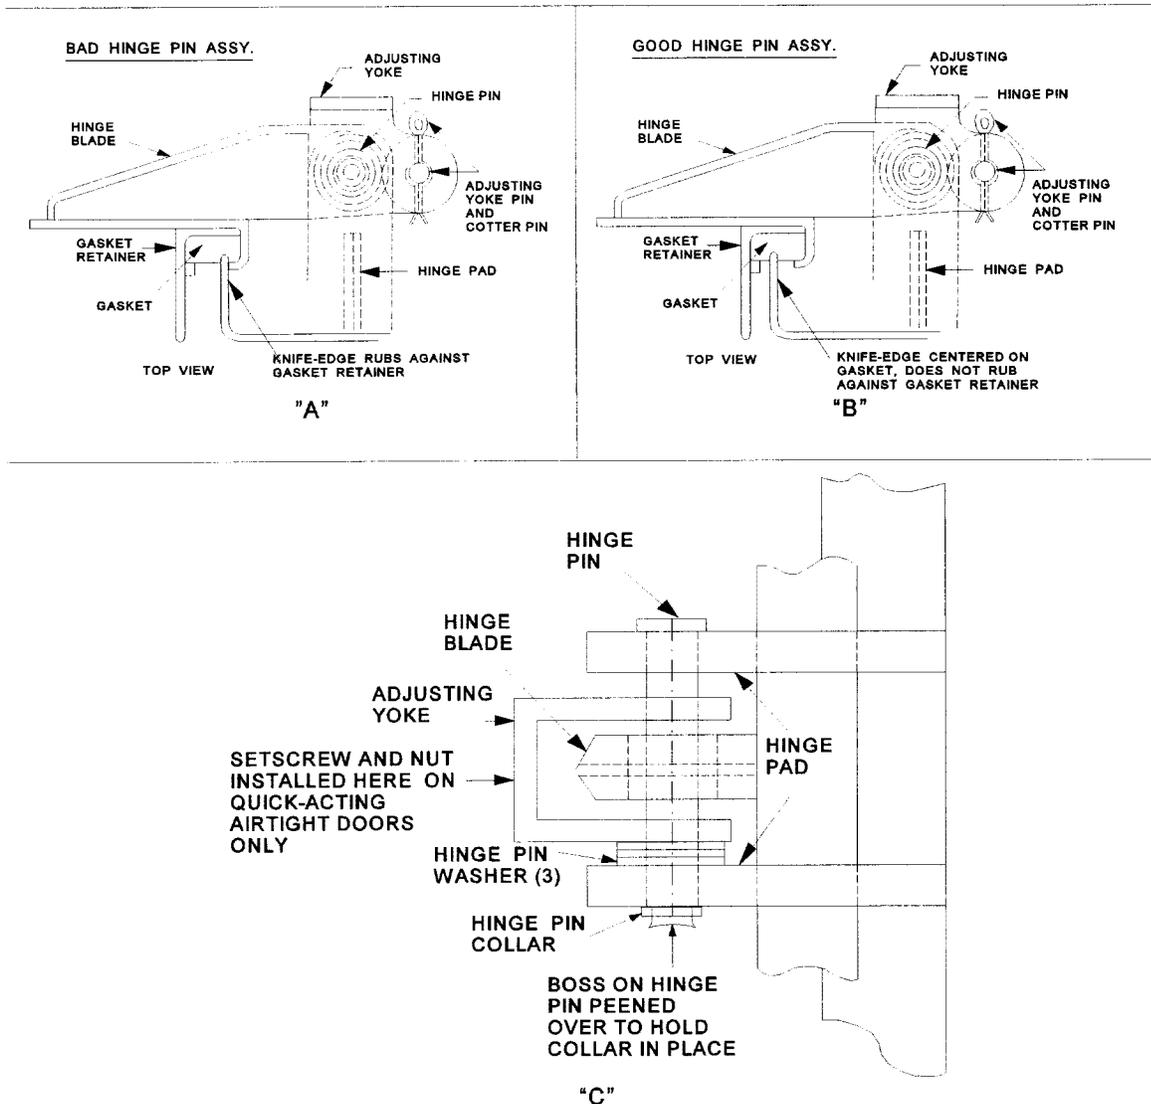

Figure 2-24. Hinge Pin Assemblies
- d. Visually inspect the hinge sleeves and hinge pins for wear. With the door opened, grasp the door from the hand lever side, and push toward the hinged side. The door should not give more than approximately 3/16 inch. If it does, either the hinge pins and/or washers are worn, or the holes for the hinge pins have become enlarged. Do not confuse hinge pin wear with normal play in the hinge blades. Another indication of hinge pin wear is if the metal channel surrounding the gasket on the door side is rubbing against the knife-edge, or if the door panel rubs one or more side dogs when opening or closing. See figure 2-24, "A." A good hinge and alignment are illustrated in figure 2-24, "B." Replace the hinge pin washers and/or pins if any of the following conditions exist:
4. The hinge pin washers are worn thin to approximately 1/32 inch. New washers are 1/16 inch in thickness. See figure 2-24, "C."